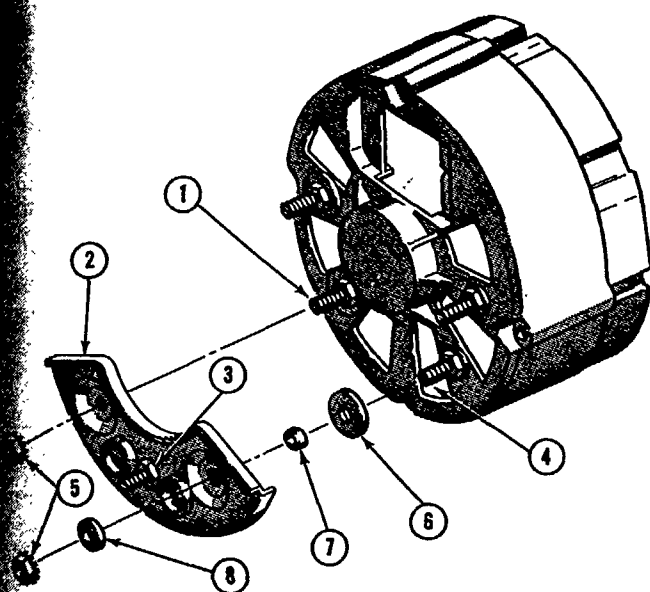

Figure 28
2. Remove the two 10-24 locknuts and the 1/2" O.D. (12.70 mm.) fiber washer from the auxiliary terminal and the negative output stud. Notice the nylon sleeve on the negative output stud, Figure 28.
Figure 28, over the terminal studs. Make sure the 3/4" (19.05 mm.) O.D. washer and nylon sleeve is installed on the negative output stud behind the diode assembly.
1. Remove the two 10-24 locknuts and the 1/2" (12.70 mm.) O.D. fiber washer, Figure 28, from the auxiliary and negative output studs.